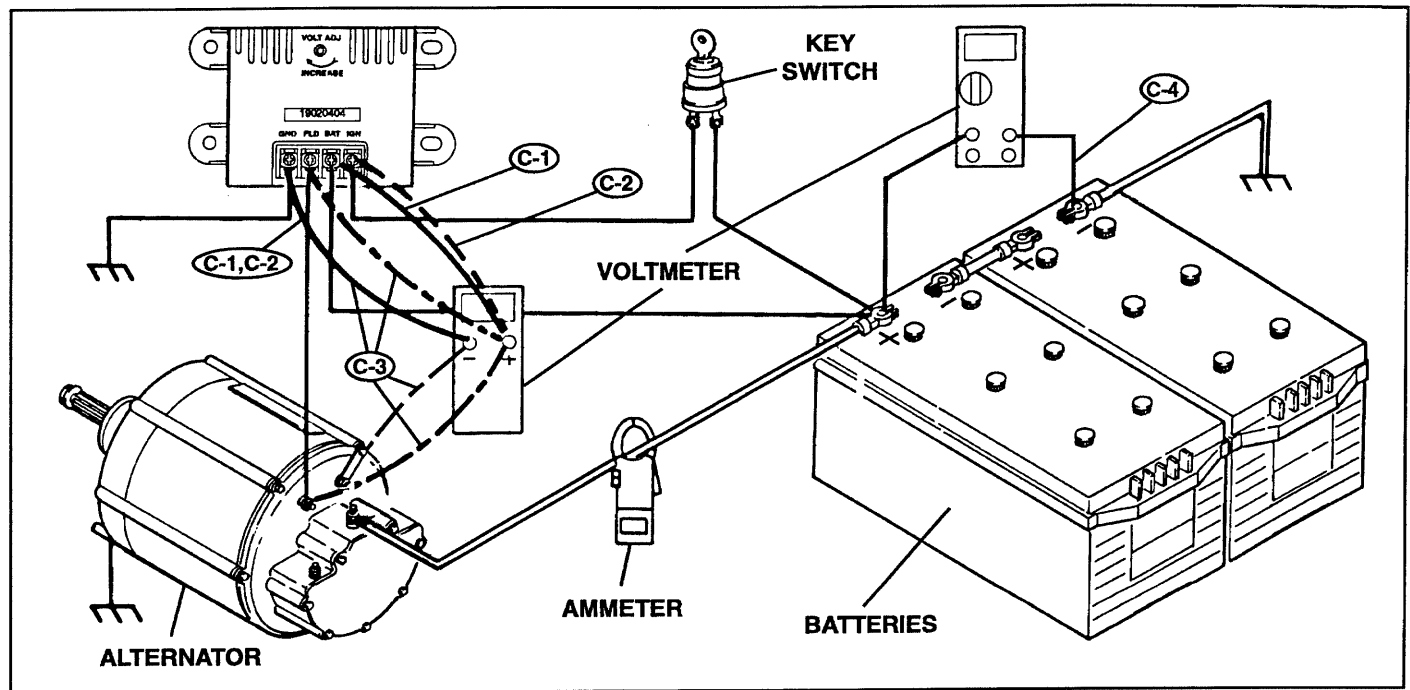

Figure 1. Checking Regulator.
1. Install or connect an ammeter as shown in Figure 1 and a voltmeter with negative lead to "GND" and positive lead to "BAT" terminal on regulator and read voltmeter, reading should be approximately battery voltage. If not, repair ground or battery to regulator wiring and recheck to verify repairs.